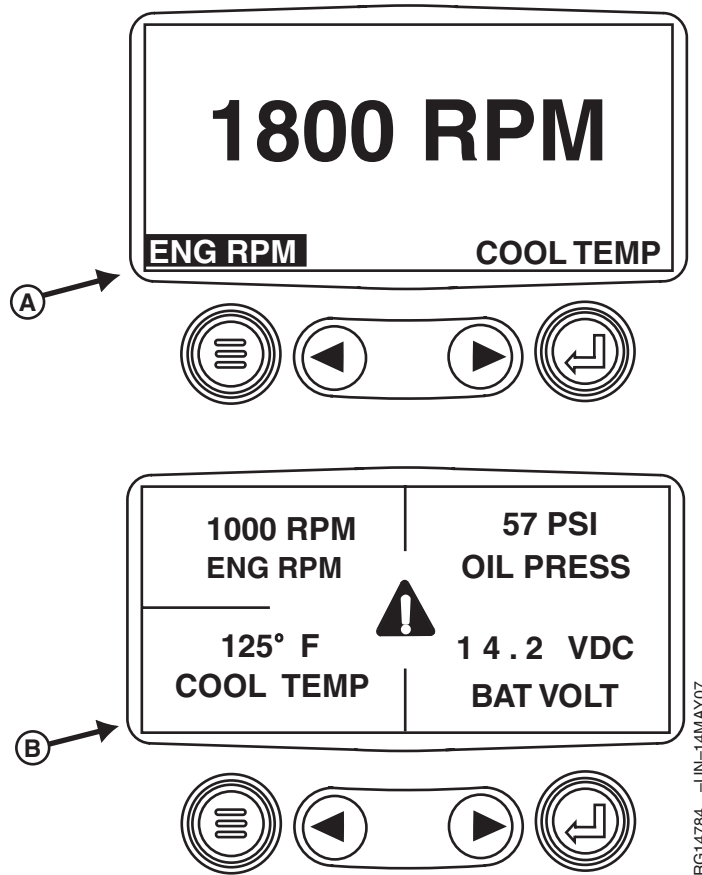

Figure 1. One and Four Parameter Displays
be selected, one showing a single parameter, called 1-Up Display (A), and the other showing 4 selectable parameters, called 4-Up Display (B). At power up, the gauge defaults to the mode that was last used. Examples of both are shown in figure 1.